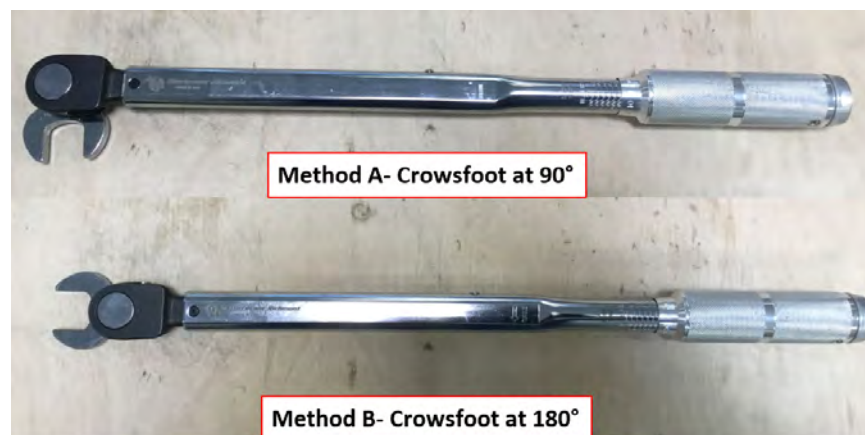
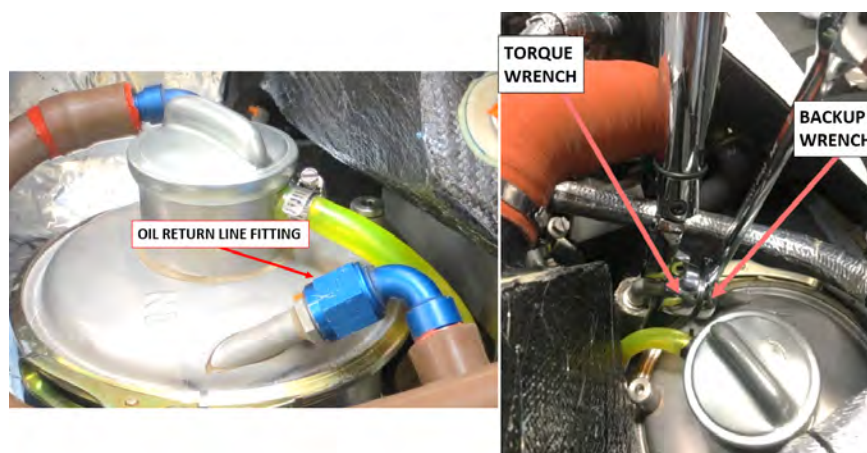

FIGURE 16-10
FIGURE 16-14
2. Verify the torque value on the oil return line fitting. Torque oil return line fitting to 300-350 in-lb if using Method A or 290-330 in-lb if using Method B. (See Figure 16-10.)
30. Remove plugs and install oil return hose at "IN" port of oil tank. (See Figure 16-14.) Torque B nut to 300-350 in-lb if using Method A or 290-330 in-lb if using Method B. (See Figure 16-10.)